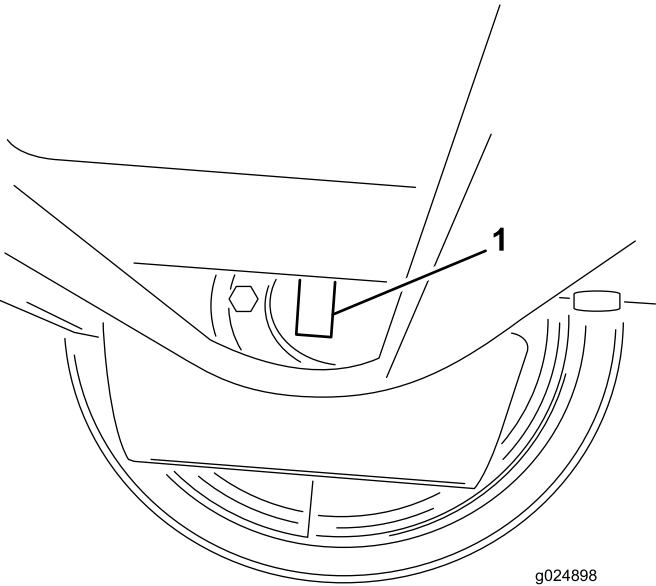

Figure 1
3. Inspect the wheel-motor serial plate (Figure 1). This can be viewed from beneath the machine.